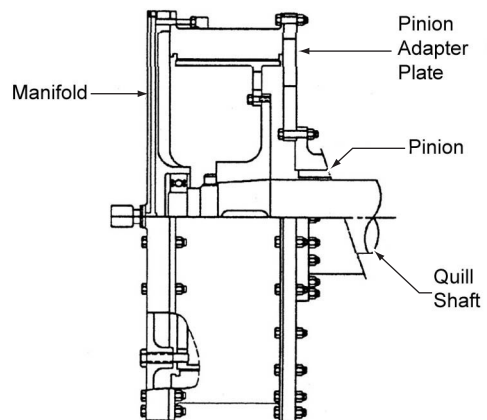

Figure 6
2.1.4 **Figure 6** illustrates a typical marine main propulsion application. In this arrangement, the element is attached to a pinion adapter plate and the drum and drum hub are attached to a quill shaft. A manifold is attached to the outboard end of the element for bearing support of the quill shaft.